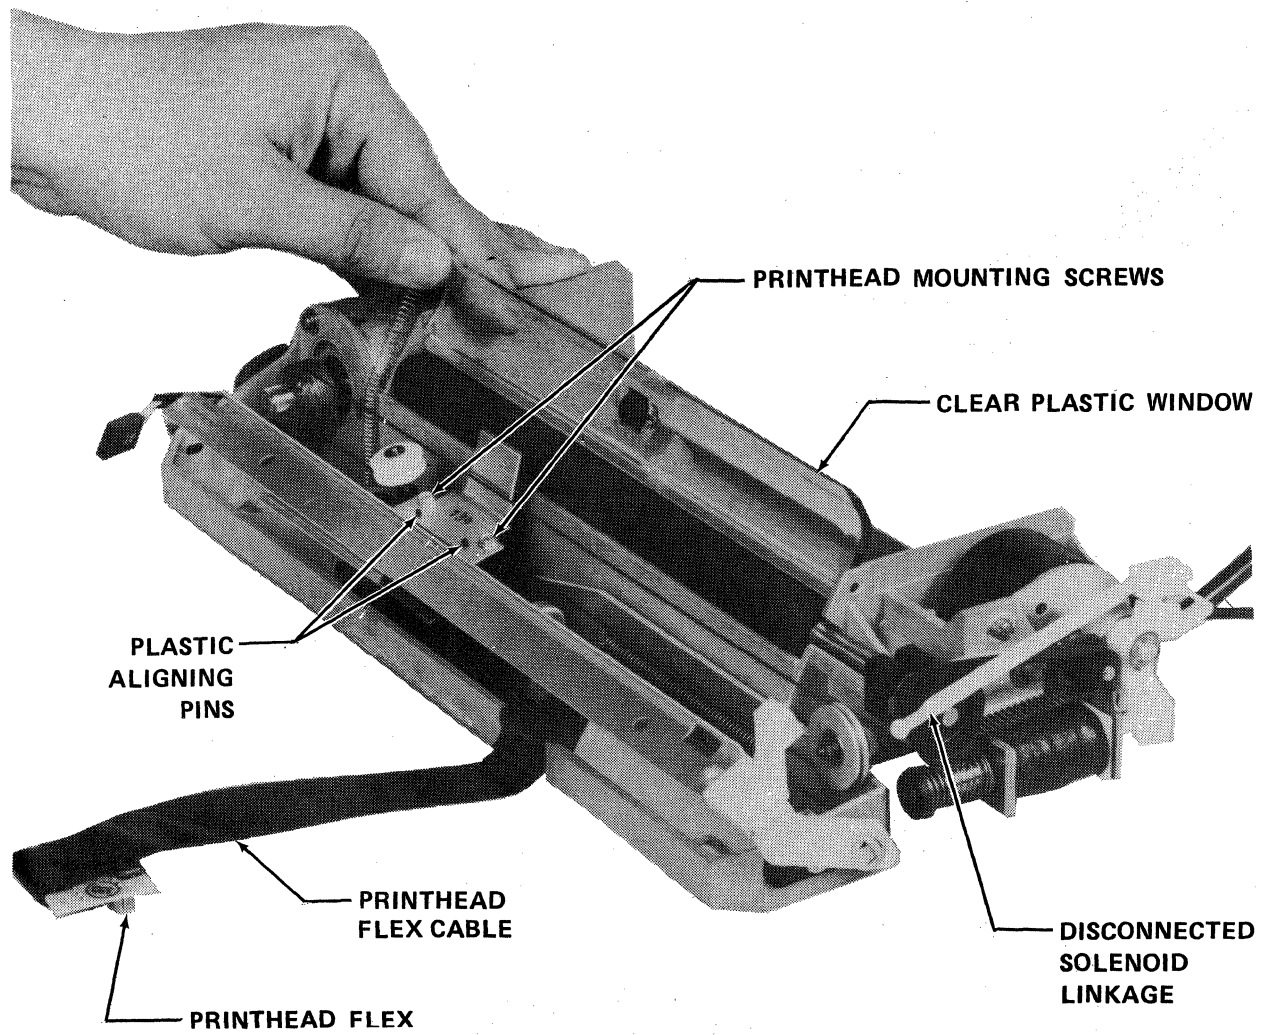

Figure 5-7. Printhead Removal
6. Lift the clear plastic window (fig. 5-7), grasp the printhead assembly pulling up and back until it is clear of the two plastic aligning tabs.
1. Lift the clear plastic window (fig. 5-7).